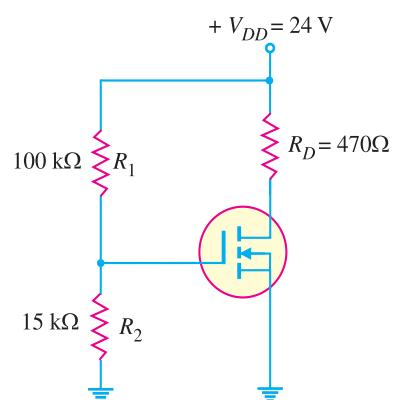

Fig. 19.61
**Example 19.36.** Determine  $V_{GS}$  and  $V_{DS}$  for the *E-MOSFET* circuit in Fig. 19.61. The data sheet for this particular MOSFET gives  $I_{D(on)} = 500 \text{ mA}$  at  $V_{GS} = 10\text{V}$  and  $V_{GS(th)} = 1\text{V}$ .
**Solution.** Referring to the circuit shown in Fig. 19.61, we have,